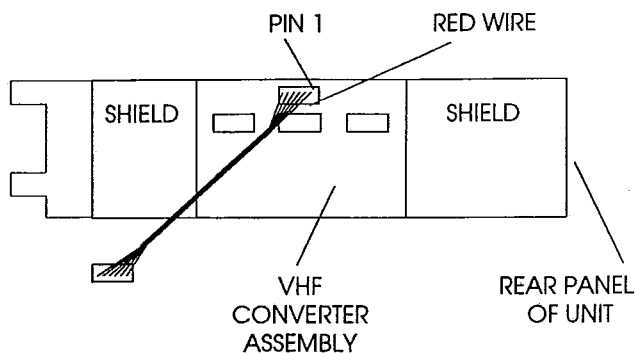

FIGURE 1
- 1) Remove the top cover from the R8 receiver by removing (5) #6-32 x 1/4" Pan Head Phillips BLACK screws. Retain the cover and screws for reassembly.
- 2) Remove the bottom cover from the R8 receiver by removing (6) 4-40 x 1/4" Pan Head Phillips screws. Retain the cover and screws for reassembly.
- 3) Identify the (6) conductor cable (17' length) and plug it onto the VHF converter assembly (Figure 1) being careful to align the connector with the RED conductor on Pin 1 of the VHF converter assembly.